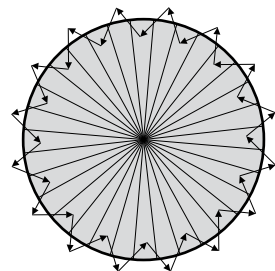

Fig. 19
- Walk from outside across to the detection pattern until red LED and load turn on for approx. 2 sec, then turn off, the next trigger should be 2 sec interval (See Fig. 19).